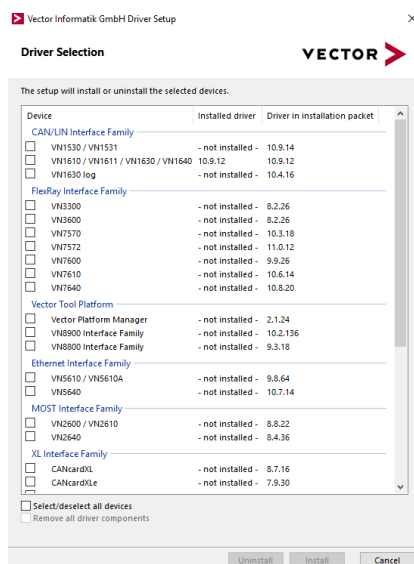

Figure 14-1: Vector driver selection
- Select the drivers of the hardware device that shall be used and run the installation procedure (see Figure 14-1)